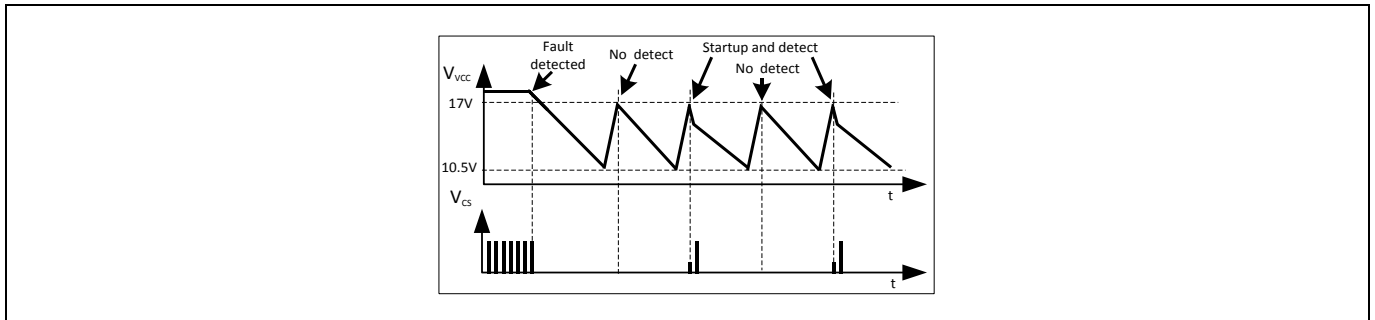

Figure 30 Odd skip auto restart waveform
Odd skip non switch auto restart mode is similar to odd skip auto restart mode except the start up switching pulses are also suppressed at the even number of the restart cycle. The detection of fault still remains at the even number of the restart cycle. When the fault is removed, the IC will resume to normal operation at the even number of the restart cycle (Figure 30).
VCC OVP (1) condition is when V_{VCC} voltage is $> 20.5\text{ V}$, V_{FBB} voltage is $> 4.5\text{ V}$ and during soft start period, the IC enters into odd skip Auto Restart Mode. This condition likely happens during start up at open loop fault (Figure 30).
Vcc OVP (2) condition is when V_{VCC} voltage is $> 25.5\text{ V}$, the IC enters into odd skip Auto Restart Mode (Figure 30).